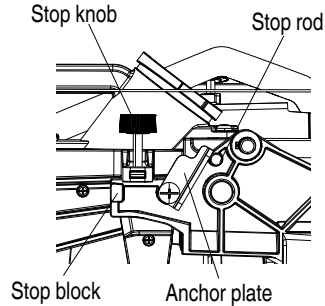

Fig. 24-a
- (1) Setting the maximum width travel of the cutting head, follow the below steps: (Fig. 24-a)